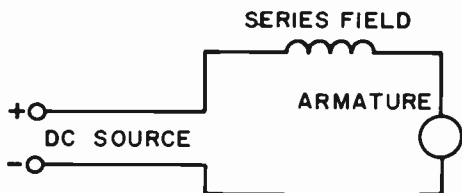

FIG. 5-9B. A SERIES WOUND DC MOTOR.
**3 SERIES MOTORS.** Fig. 5-9B illustrates a series-wound motor. The field is in series with the armature. Therefore, the armature current is the same as the field current and the field strength is proportional to the armature current. Mechanically, it can be shown that the torque (turning force) of the armature is proportional to the square of the armature current.